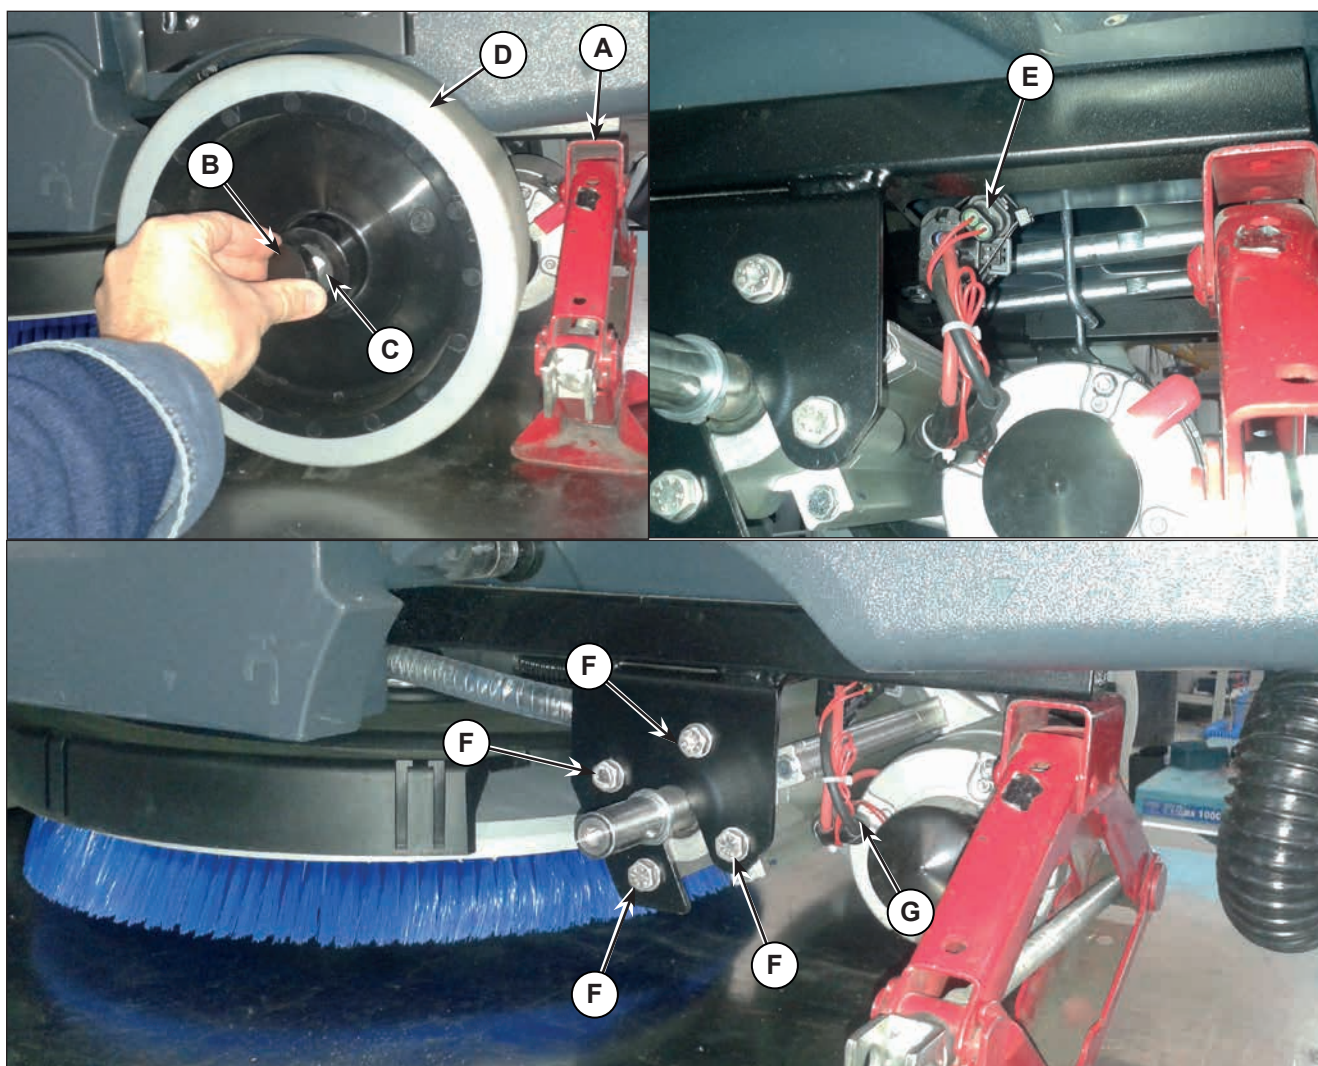

Figure 7:
2. Place a suitable lifting device (A, Figure 7) to raise one side of the machine approximately 2 cm from the floor.
3. Remove the plug (B), remove the screw (C) and retrieve the washer.
4. Remove the wheel (D) and retrieve the key.
5. Disconnect the connection (E).
6. Remove the 4 screws (F) and retrieve the washer.
7. Repeat step 2 to 6 for the other wheel, then carefully disassemble the gearmotor (G) from the machine.